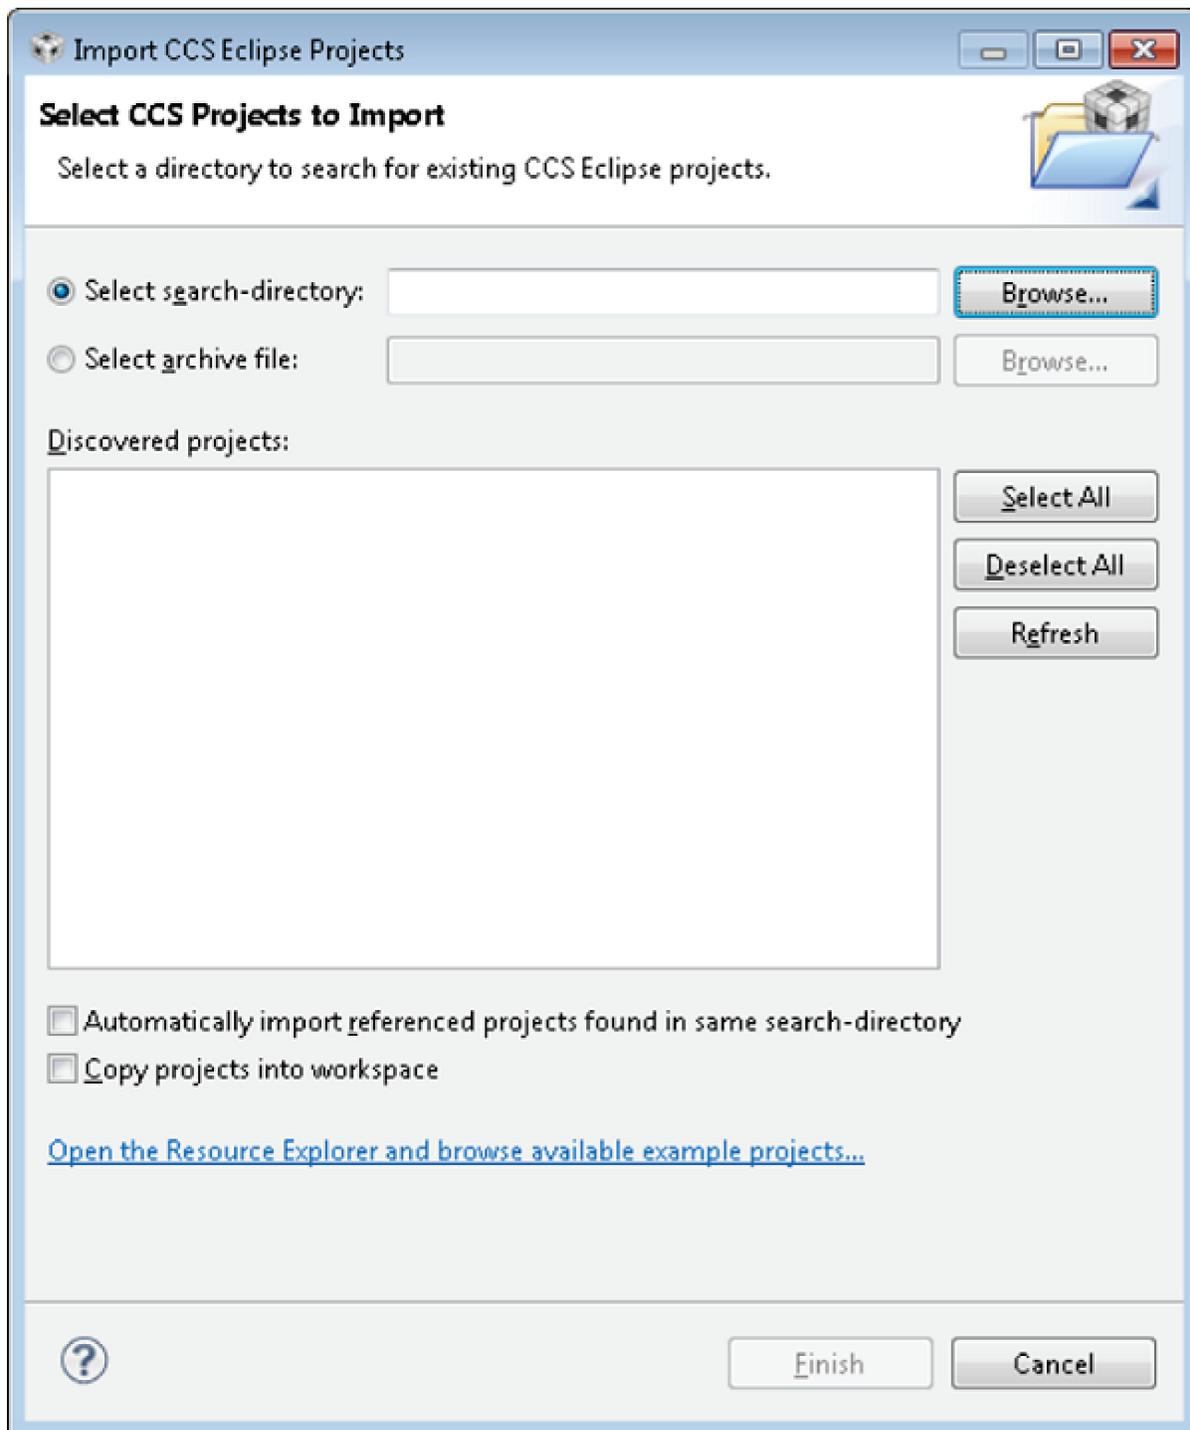

Figure 2-1. Select CCS Projects to Import
3. Select the Browse button in the Import CCS Eclipse Projects dialog, as shown in Figure 2-1, and select the directory `<sdk-installation-path>\examples\os\CC3220SF_LAUNCHXL\demos` (use relative path of CC3220S if needed).